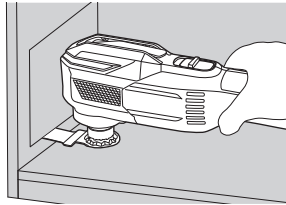

Fig. 15
- (1) Switch the unit on and use the dial to set the speed of the application tool. (**Fig. 15**)
- (2) Lightly place the application tool on the material and move the application tool forward at a pace where the movement isn't slowed. (**Fig. 15**)